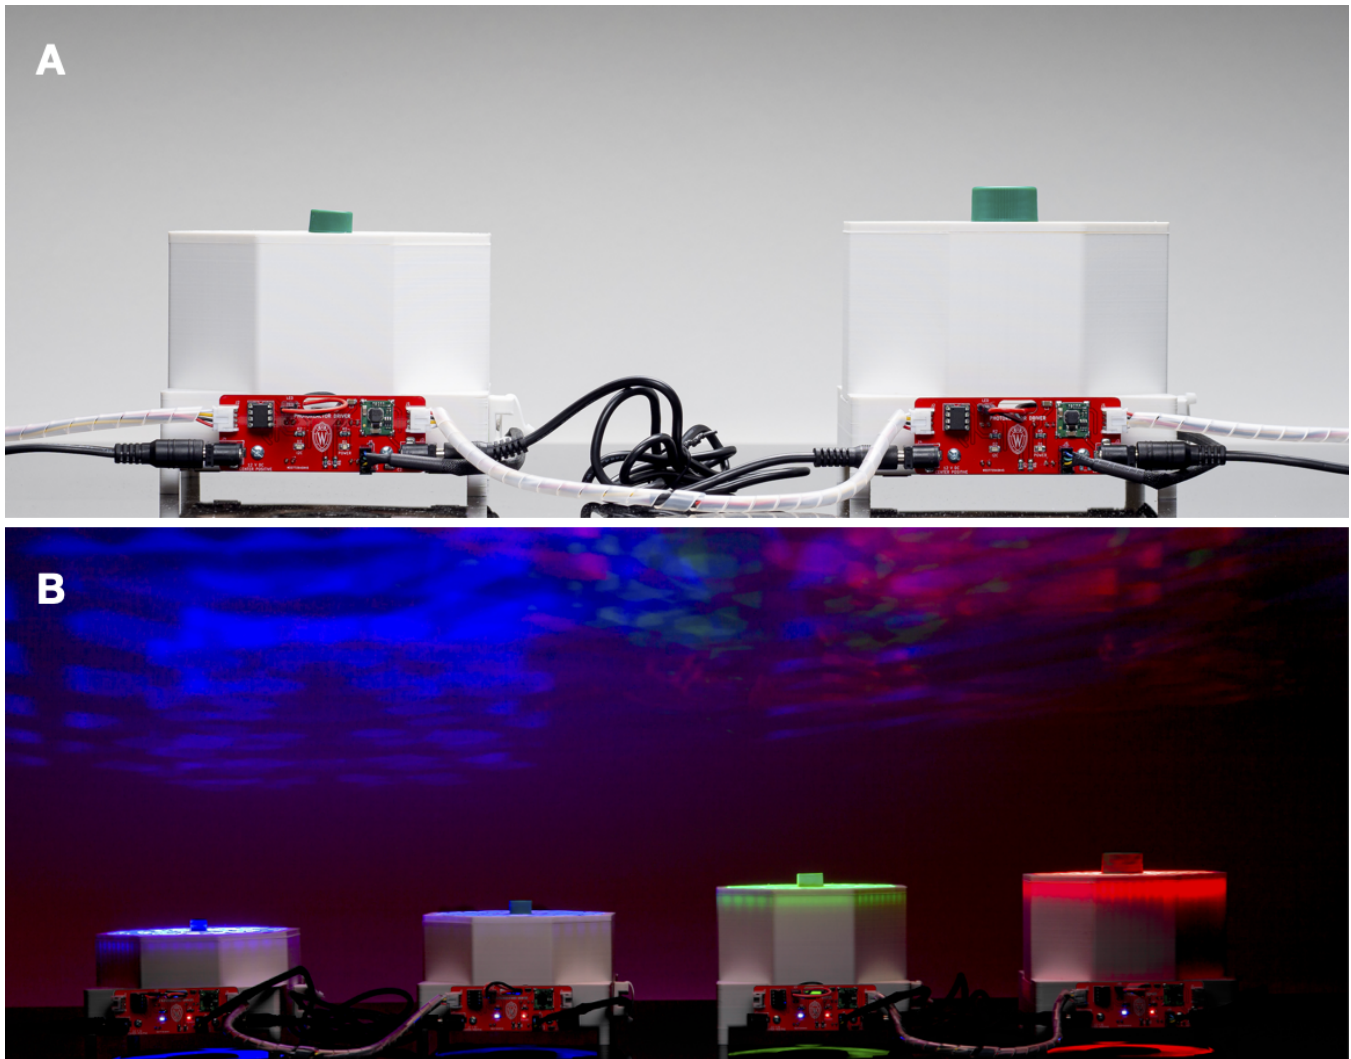
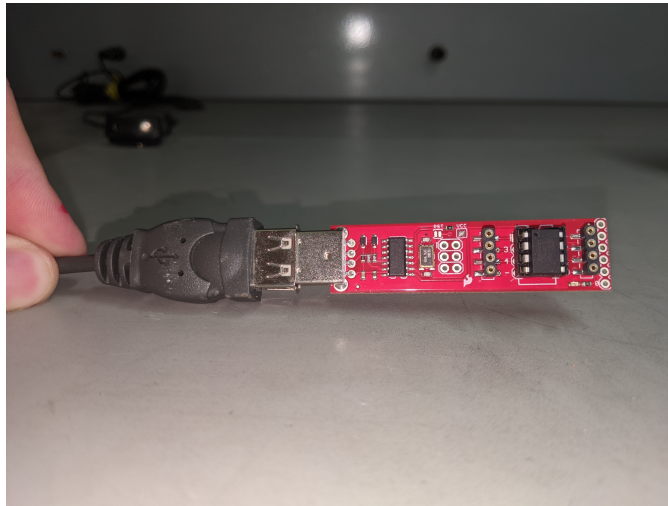

Figure 15: (A) WPP devices fitted with digital driver boards connected in series. (B) Powered WPP devices connected in series.
Figure 19: An ATtiny85 microcontroller programmer purchased from SparkFun (item number PGM-11801).
**Through use of the digital driver board, one can control WPP device light intensity and fan speed.** This control is achieved by interfacing a control unit, like an Arduino Uno, to the digital driver board using custom software. Multiple WPP devices with digital driver boards can be connected to a single control unit and power supply (Figure 15). Open-source firmware for interfacing digital driver boards with an Arduino Uno control unit is provided in the project repository. Other peripherals can be connected to digital driver boards to expand functionality, but firmware must be produced to interface with them.
We recommend using the Arduino IDE and a commercial programmer to program ATtiny85 microcontrollers (Figure 19). Follow the instructions provided by the manufacturer of your programmer to program microcontrollers with the provided firmware. Note that each digital driver board has an address that is defined at the top of the firmware file programmed onto each microcontroller. You should change the address of each microcontroller to be unique within the “network” of all I2C peripherals connected to a single control unit. Multiple digital driver boards with unique addresses may be networked together onto one I2C bus by simply daisy-chaining the boards together, as shown in Figure 15. You should physically label each microcontroller you program with its address.